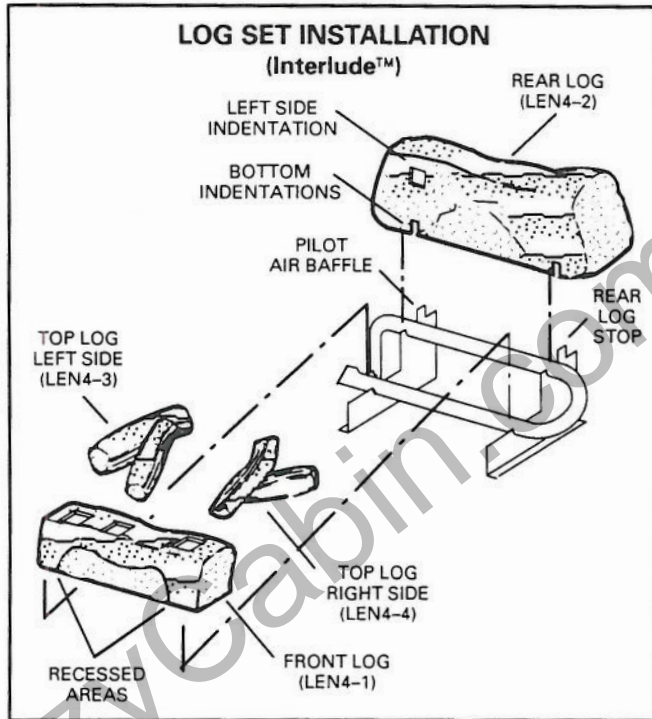

FIGURE 2
- c – Install top logs so that they rest in recessed areas on the front and rear logs. See figure 2.